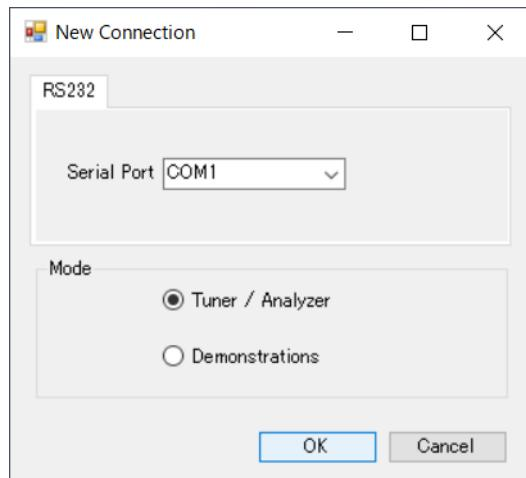

Figure 4-1 "New Connection" Dialog
(6) Double-click the unzipped executable file (RZT2H_Motion_Control.Utility.exe) to launch the RZ/T2H Motion Control Utility.
(7) Specify the COM port number to connect using the "Serial Port" combo box in the "New Connection" dialog (Figure 4-1) and press the "OK" button to establish communication.